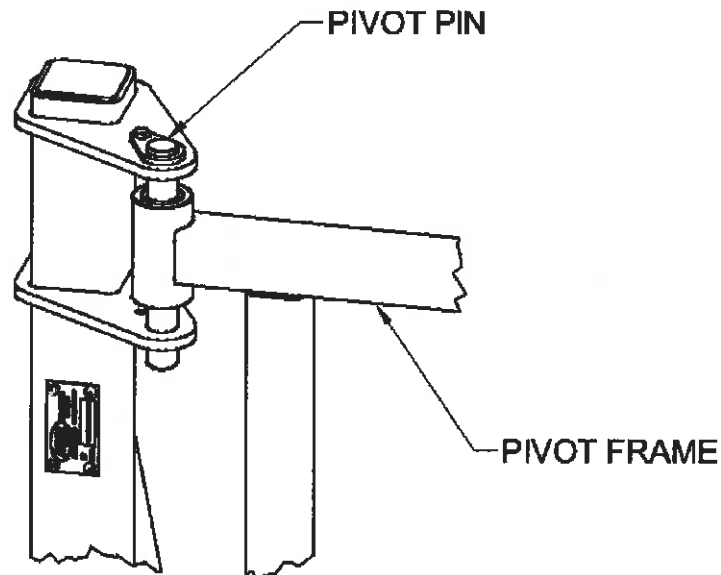

figure I-2
2. Stand the pivot frame and lifter assembly into position and reinstall the pivot pins. (figure I-2) Leave out the spacers at this time to allow the pivot frame to properly adjust for uneven terrain.